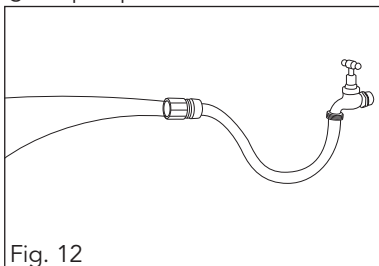

Fig. 12
1. Run water through garden hose to remove any foreign matter before attaching to the pump (fig. 12).